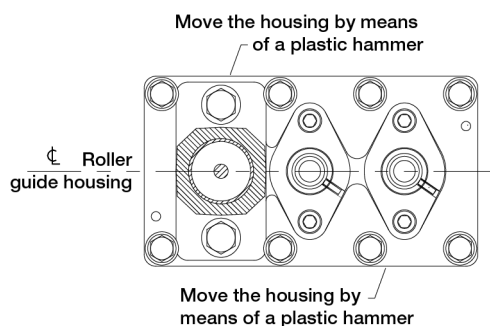

Figure 4: Housing for roller guide, top view
2. Mount the housing and the roller guides and tighten the screws, so that it still will be possible to move the housing by means of a plastic hammer, See fig. 4.